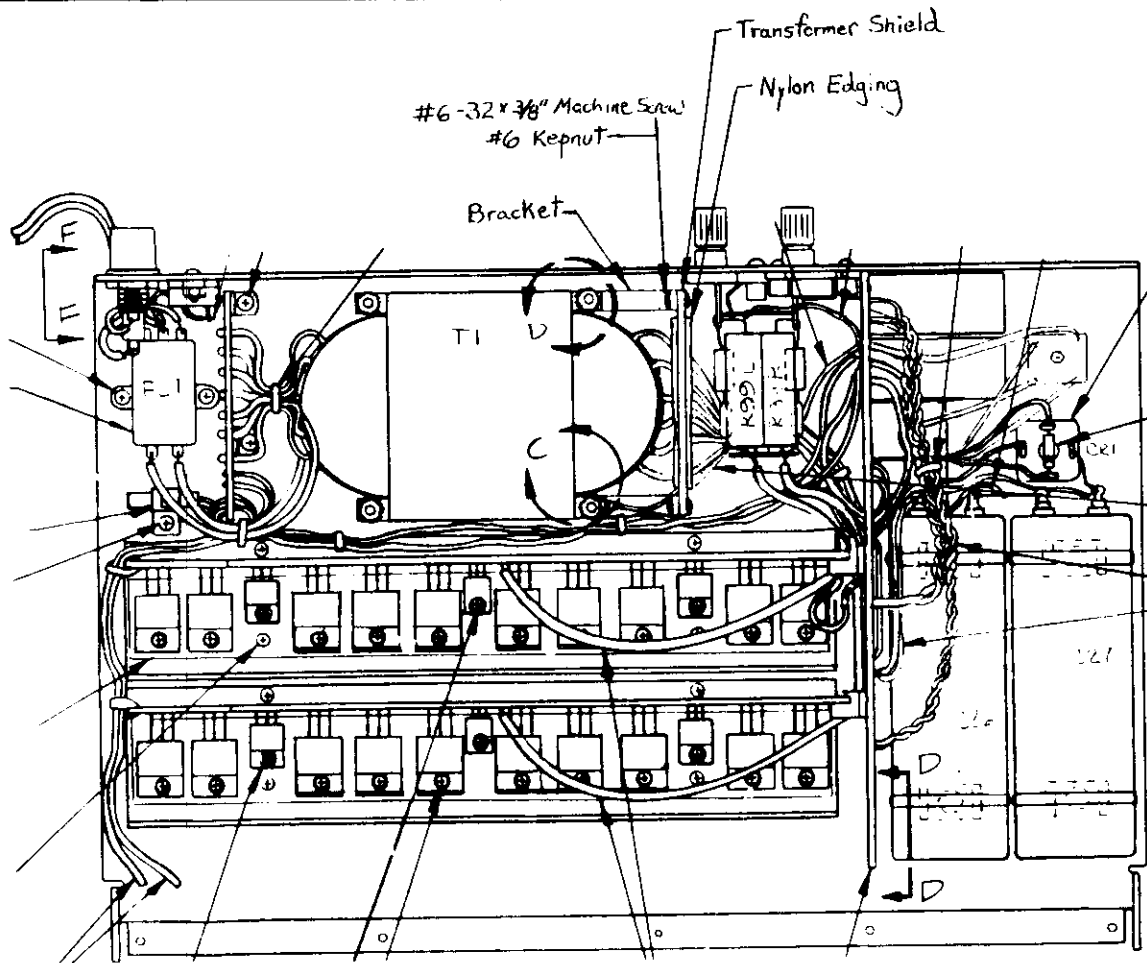

Figure 1
3. Remove upper nut from the two transformer mounts on the right hand side of the transformer (side nearest speaker output binding posts). Install transformer shield assembly so that the holes in the long end of the two brackets are positioned over the transformer mounting bolts and the shield is positioned between the transformer and the speaker output binding posts (see Figure 1).